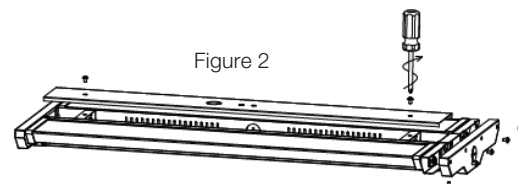

Figure 2
STEP 1: Use a screwdriver to disassemble the side cover and front cover of the fixture (Figure 2).